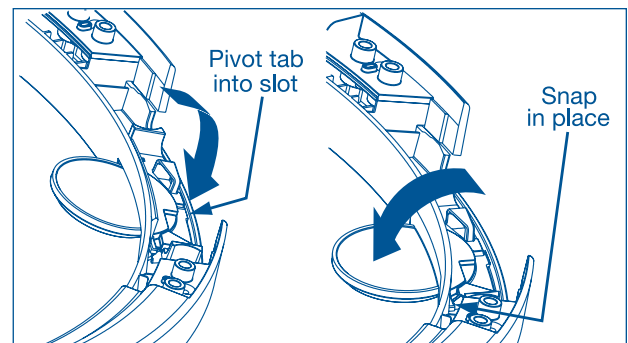

Figure 2-31.
3. Gently push the indicator toward the center of the glass and pivot the tab downward into the retaining slot. (See Figure 2-31)